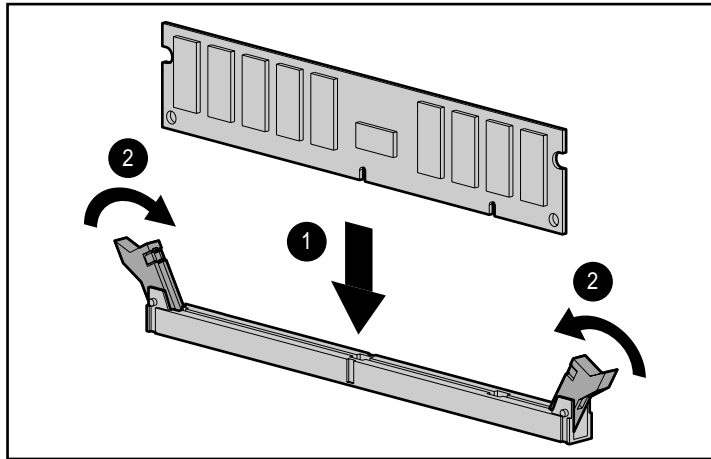

Figure 4-8. Installing a DIMM
3. Install DIMMs as shown in Figure 4-8. For information on memory banks, see the following section titled “Memory Banks.”